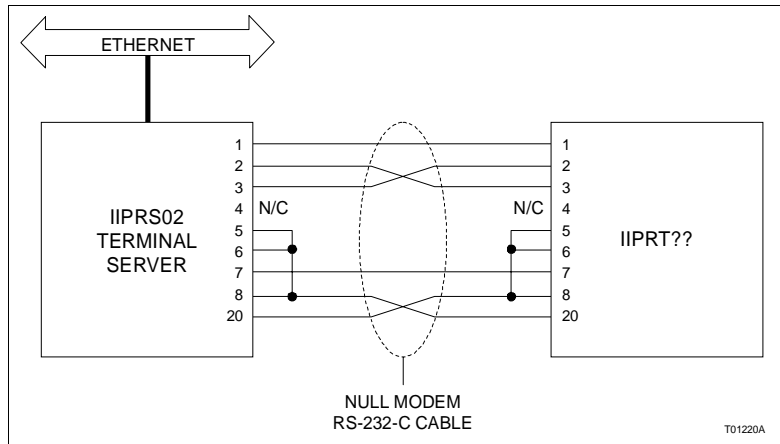

Figure PR37-1. Printer Cable Configuration
- 3. Connect one end of the printer cable to the DB-25 serial connector of the printer (Fig. PR37-1).